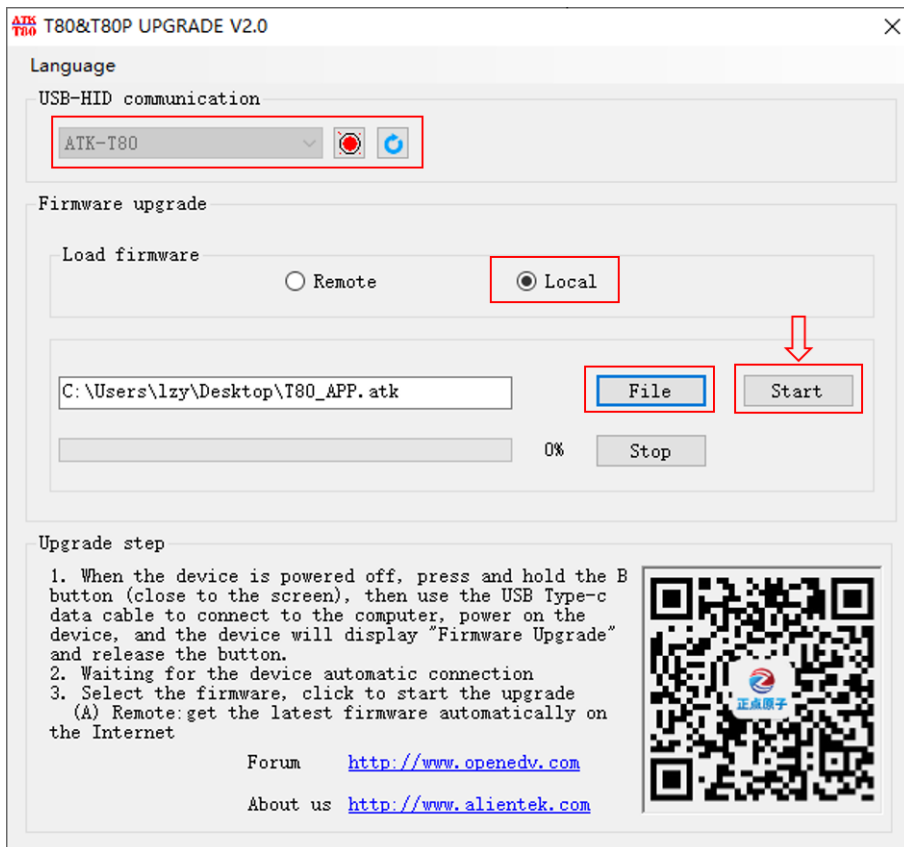

Figure 10-3 Firmware upgrade
Step 4: Select the local firmware, and load the T80_APP.atk file, click to start the upgrade and wait for the upgrade to complete. The operation is shown in Figure 10-3 below.